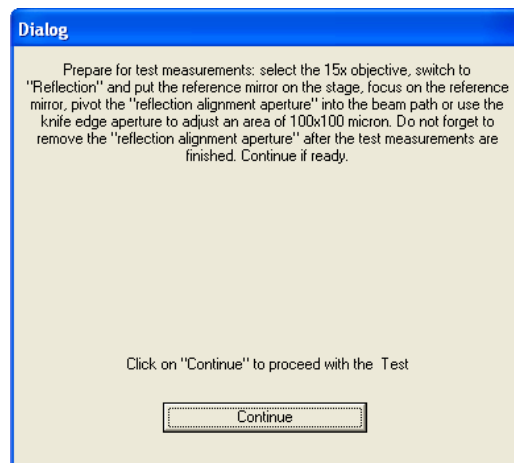

Figure 44: OPUS Reminder Message
- Thereupon, the message window shown in figure 44 appears reminding you to check whether the microscope is prepared as described in section *PQ Test Procedure*, subsection *Preparing the Microscope in Reflectance for the PQ Test*.